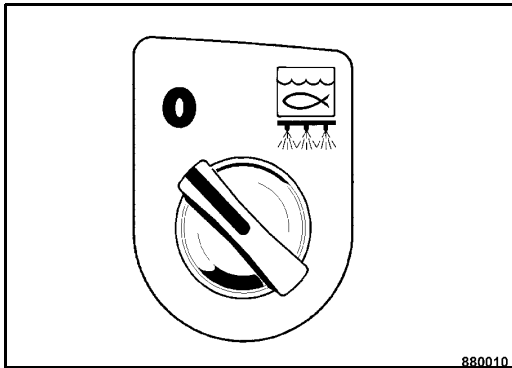

Fig. 79
- Turn the rotary switch for gravity feed sprinkling system (Fig. 79) to the right, the gravity feed sprinkling system is switched on.